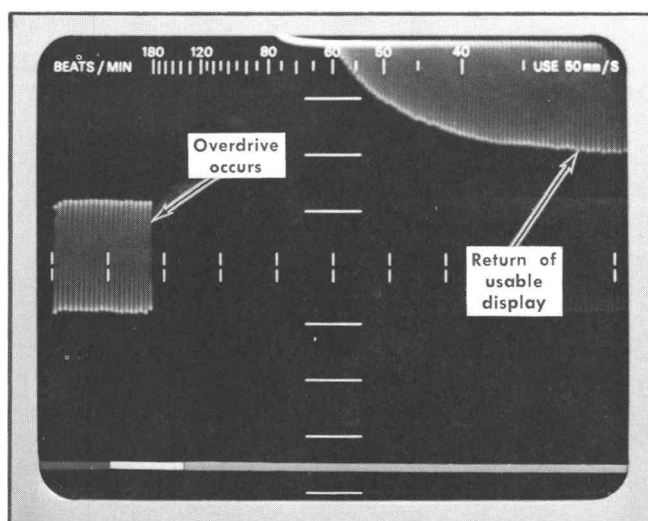

Fig. 6-13. Typical CRT display when checking overdrive recovery time.
- Adjust the sine-wave generator for a 2-centimeter display at 60 hertz (see Fig. 6-13).